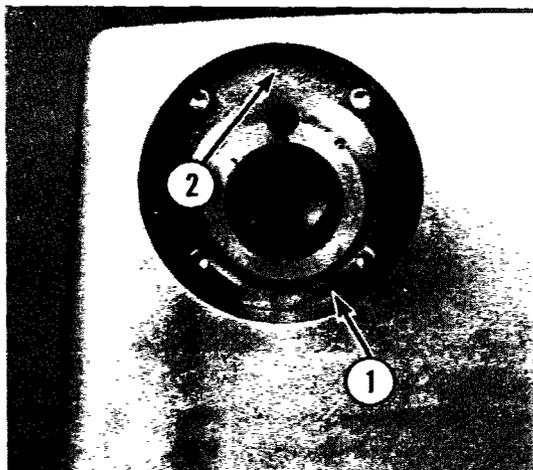

Fig. 2-50
- (2) Remove four screws and remove the attachment hub and bearing assembly (1, Fig. 2-50).
- (2) Align the vent hole in the hub assembly (2, Fig. 2-50) with the vent hole in the housing (2, Fig. 2-52).
- (3) Install the hub assembly (1, Fig. 2-50) and tighten the four screws evenly.
- (4) Test the machine for proper operation.
- (5) Install the trimcap, attachment plug and thumbscrew.